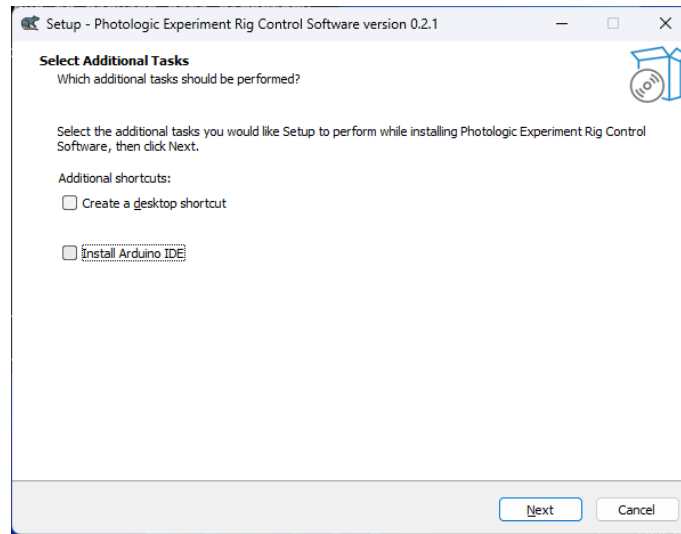

Figure 3: Installing only the Control Software.
2. **Open the Installer** - To begin the installation of the program, open the '.exe' file just downloaded. It will look like the image shown in Figures 3 and 4. You will need to make a selection here. If you **DO** currently have the Arduino IDE installed, you can leave this unchecked. If you **DO NOT** have this software installed, you need to check the box and install the software. If you are unsure, check the box to be safe.